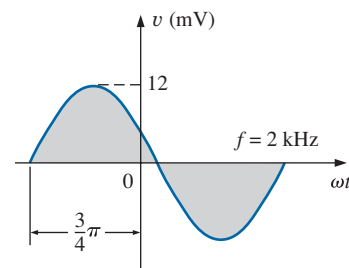

FIG. 13.93
31. Write the analytical expression for the waveform of Fig. 13.93 with the phase angle in degrees.